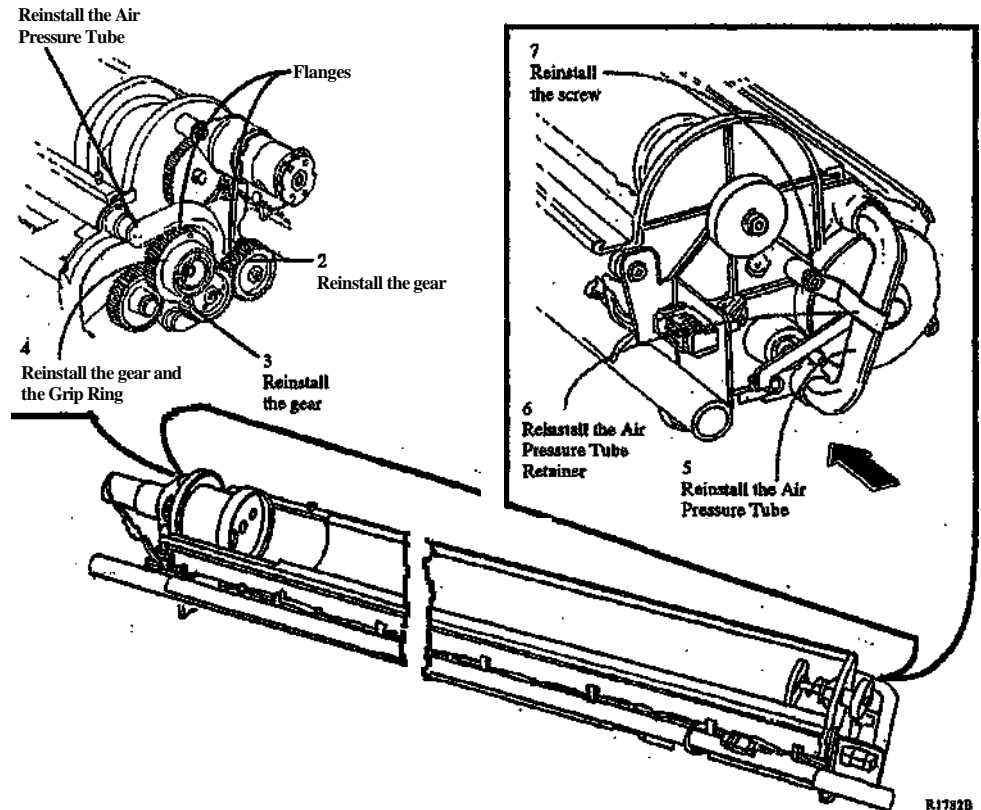

Figure 5. Reinstalling the Air Pressure Tubes
2. (Figure 5): Reinstall the Air Pressure Tubes.